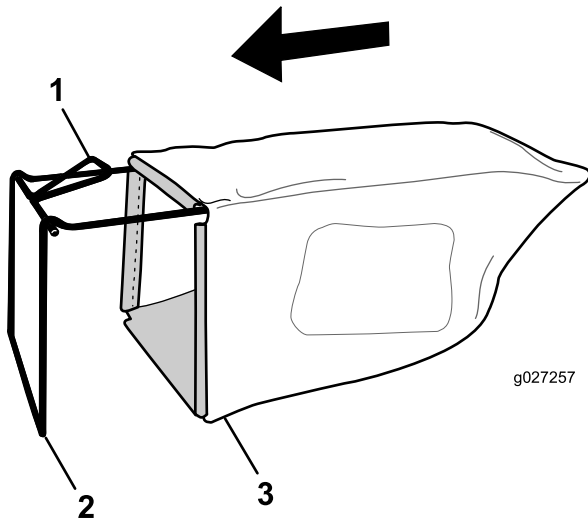

Figure 10
1. Slip the grass bag over the frame as shown in Figure 10.
Note: Do not slip the bag over the handle (Figure 10).